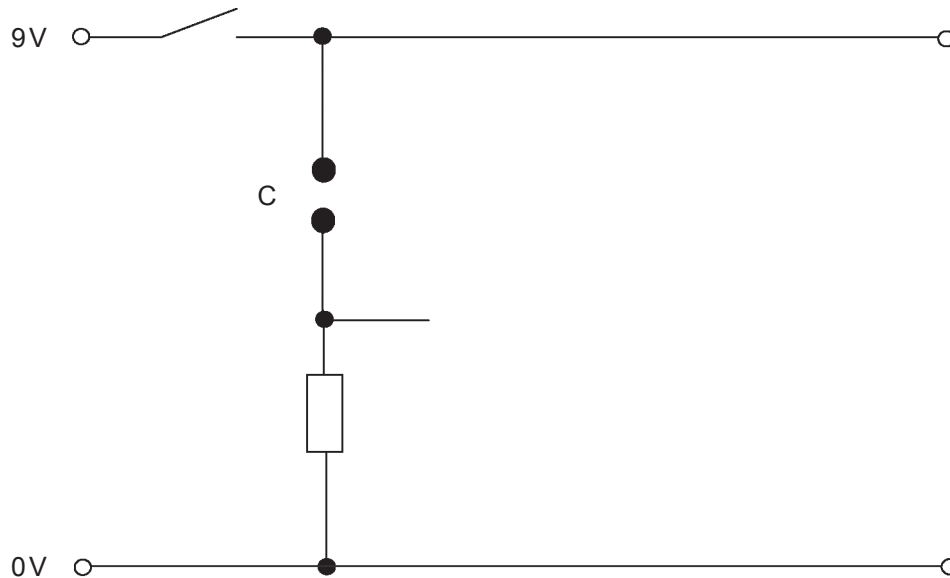

Fig. 6
(e) Fig. 6 shows a circuit under construction.
- (ii) Name the component symbol labelled C in Fig. 6.